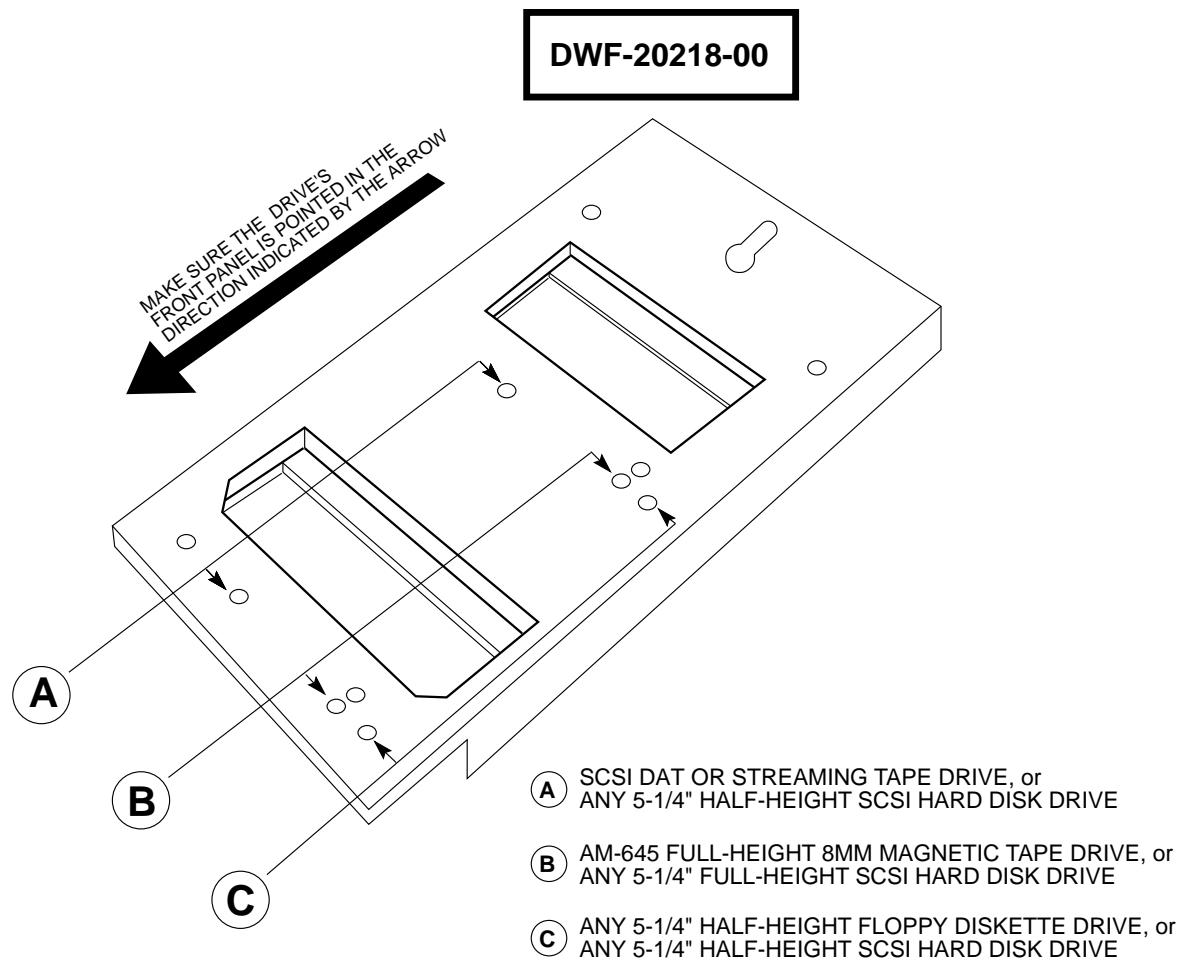

Figure 4 - Plastic Mounting Base
| Figure 4 - Plastic Mounting Base | 9 |
2. The AM-650 has a number of mounting screw holes on its side. There are corresponding holes in the plastic mounting base. Align the screw holes on the drive with the designated holes in the mounting base (marked as A in Figure 4). Make sure the drive's front panel is pointed in the direction indicated by the arrow.